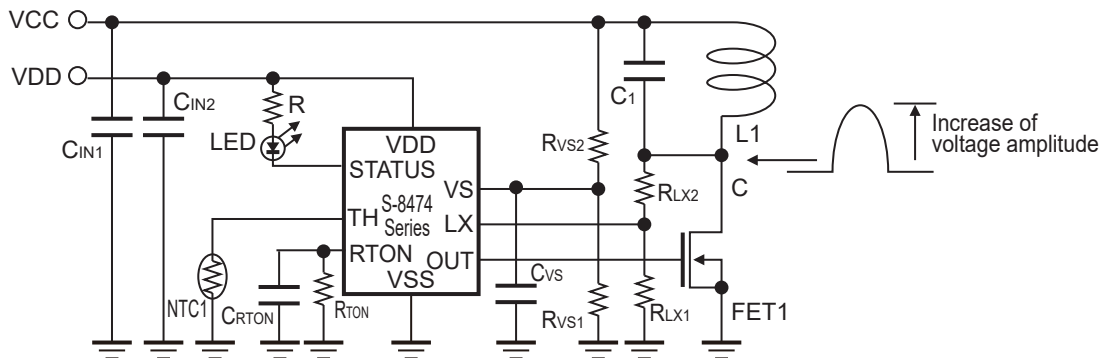

Figure 47
- For VCC in **Figure 47**, do not use a power supply which might cause frequency component amplitude of 1kHz to 110kHz (LC resonant frequency). It may result in a malfunction.
- For VDD in **Figure 47**, do not use a power supply which might cause frequency component amplitude to prevent from malfunction.
- When designing the board in **Figure 47**, for the following reasons, do not place a wiring near the RTON pin, the VS pin, and the TH pin. Layout so that resistor R_{TON} is as close to the RTON pin as possible.
(1) Due to coil L1 and resonant capacitor (C_1), large voltage fluctuation is generated at point C.
(2) Since impedance in the RTON pin, the VS pin, and the TH pin is high, they are easily affected by an extraneous signal. By connecting C_{RTON} (approximately 100pF to 1000pF) between the RTON pin and GND, C_{VS} (approximately 100pF to 1000pF) between the VS pin and GND and C_{NTC} (approximately 100pF to 1000pF) between the TH pin and GND, the influence of extraneous signal can be reduced.